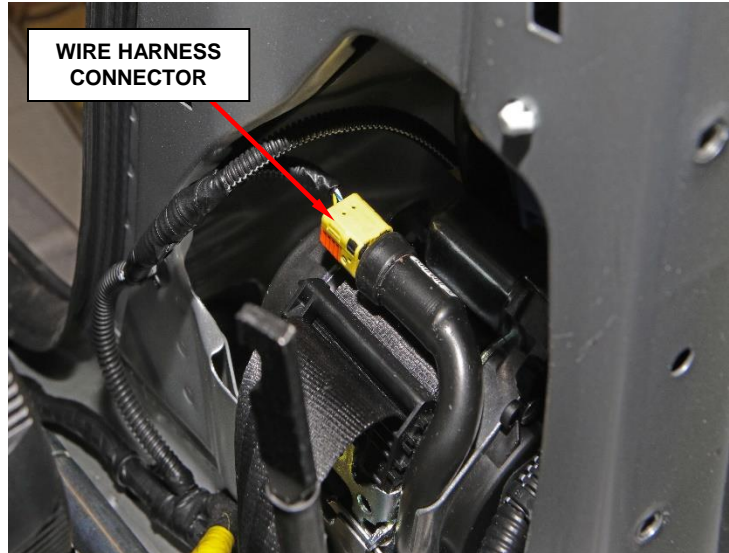

Figure 9 – Initiator Wiring Connector (ALR)
13. Disconnect the body wire harness connector from the initiator for the retractor (ALR) tensioner (Figure 9).
20. Connect the body wire harness connector to the initiator for the retractor tensioner (Figure 9).